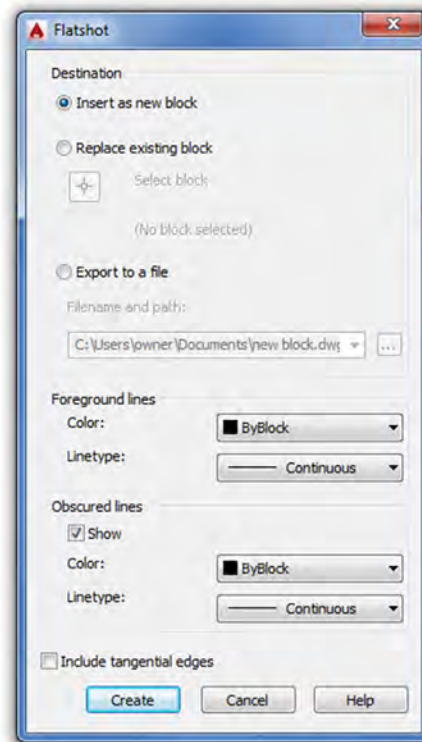

FIGURE 27.20
Step 1. There is no toolbar or cascading menu alternative, but you can use the Ribbon’s Home tab, Section panel, or type in `flatshot` and press Enter. The dialog box shown in Figure 27.20 appears.